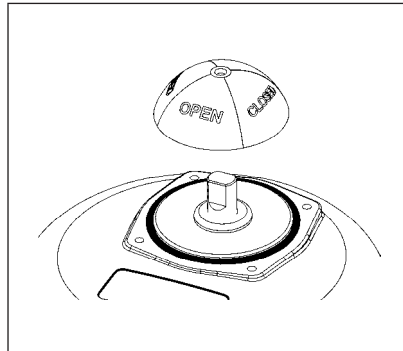

Figure 10: Removing position indicator
- Remove position indicator (see “Figure 10”).